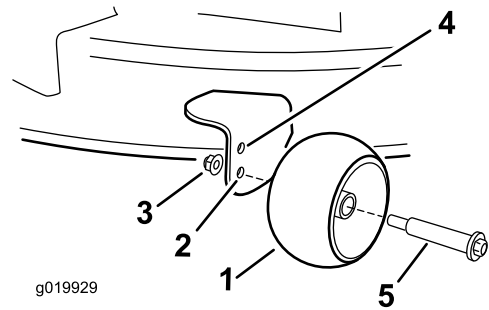

Figure 17
- Upper hole—use this position with the mower deck in the 63 mm (2-1/2 inch) and below height-of-cut positions (Figure 17).
- Lower hole—use this position with the mower deck in the 76 mm (3 inch) and above height-of-cut positions (Figure 17).